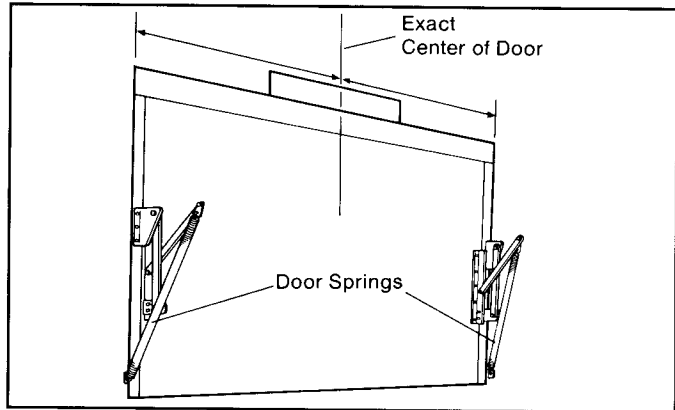

Figure 21. Center of Door.
Trackless doors are one-piece doors which employ jamb-type counterbalance hardware as part of the lifting mechanism. They are sometimes called "California" doors. Typically, the one-piece door and its accompanying hardware appear as shown in Figure 21. Note that there is another type of one-piece, trackless door that operates on a pivot. However, it is not shown in this manual because the installation requirements for pivot-mounted doors are the same as for those equipped with jamb-type hardware.
Step 1: Establish the exact center of the door and mark that location on the header above the door as shown in Figure 21.